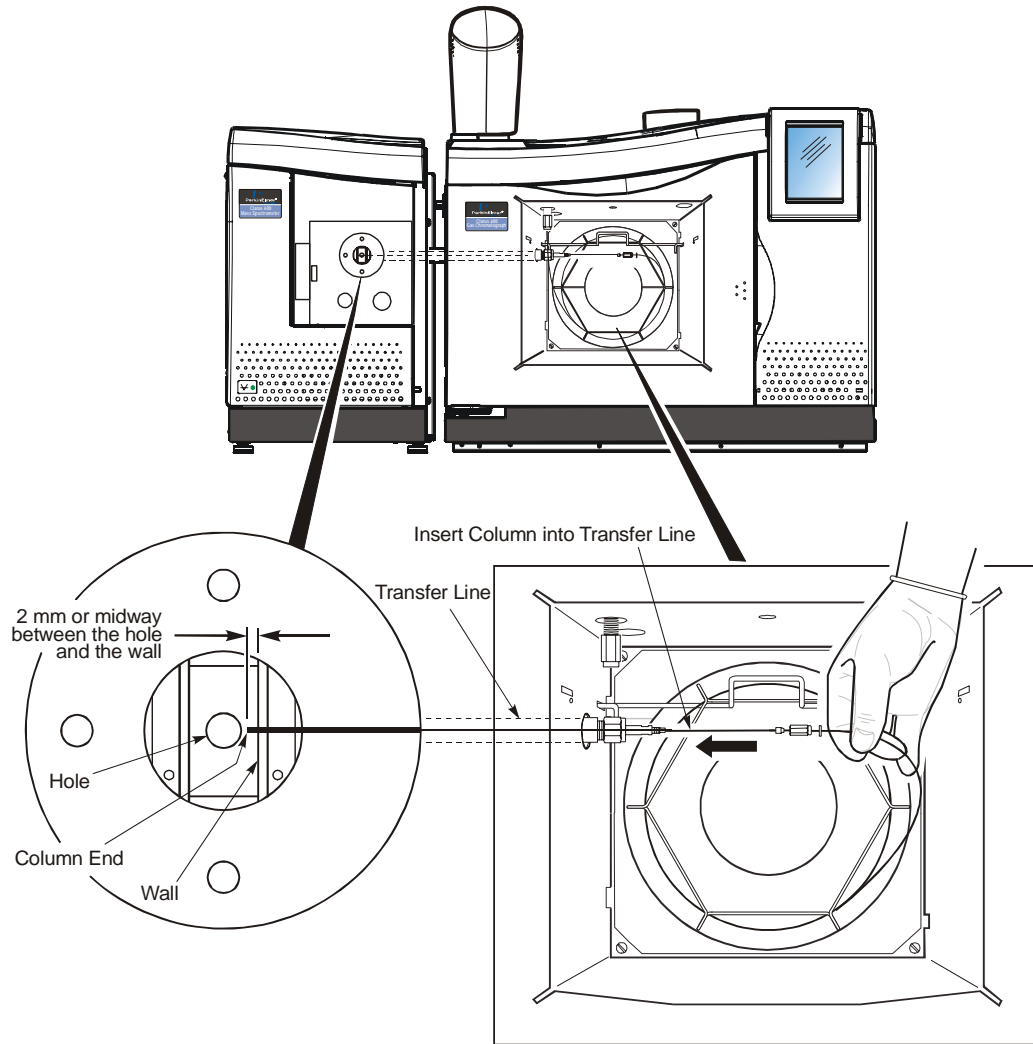

Figure 19 Positioning the column end in the source assembly
4. Carefully insert the end of the column through the transfer line and into the mass spectrometer source until it is positioned midway between the hole and the wall on the right side of the source. See Figure 19.